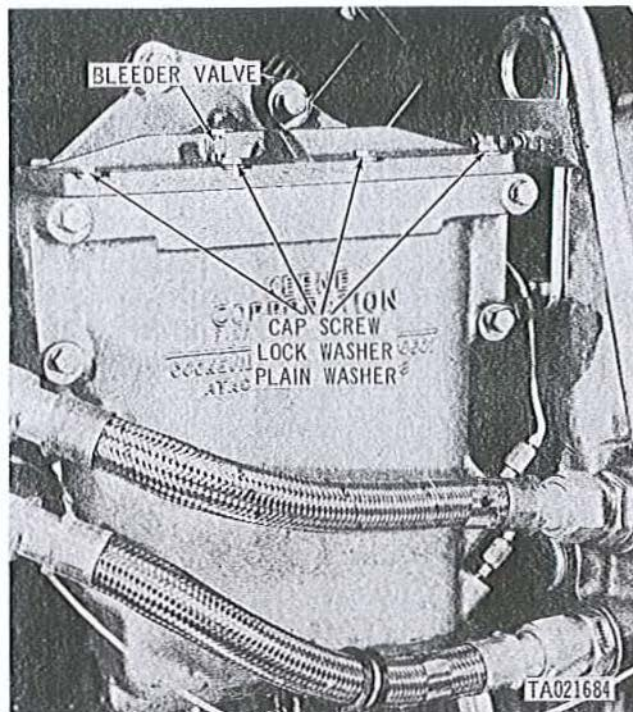
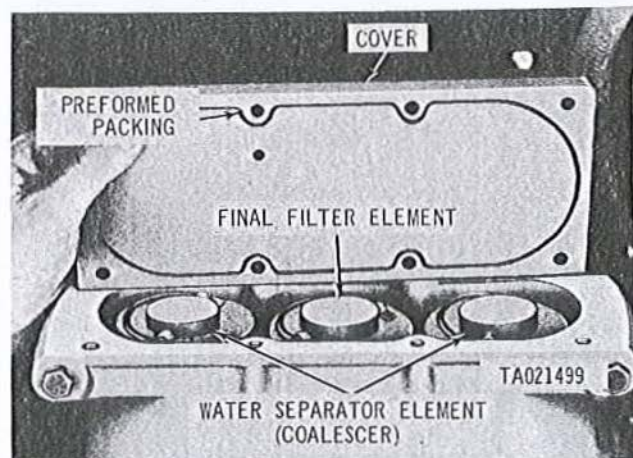

Figure 2-65. Removing or installing fuel/water separator filter cover.
Figure 2-66. Removing and installing fuel/water separator filter elements.
(2) Remove eight capscrews, lockwashers and plain washers (fig. 2-65).
(3) Remove cover (fig. 2-66) and remove and discard preformed packing. Remove and discard outer two coalescer elements from filter body.
Do not remove the final (center) element (fig. 2-66) unless dirty or contaminated fuel make it necessary. Element removal could permit possible dirt entry into the fuel injection pump. This center element is normally serviced at engine overhaul only.
(1) Install two new outer coalescer elements (fig. 2-66) in filter body, and a new preformed packing on body cover. Install cover and secure with eight capscrews, lockwashers and plain washers (fig. 2-65).